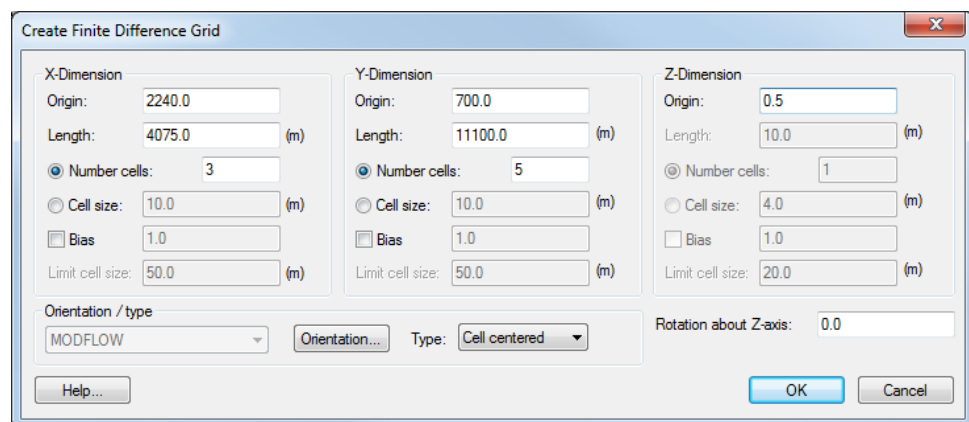

Figure 5 Create Finite Difference Grid dialog
5. In the *Orientation / type* section, select “Cell centered” from the *Type* dropdown. Figure 5 shows how it should appear.